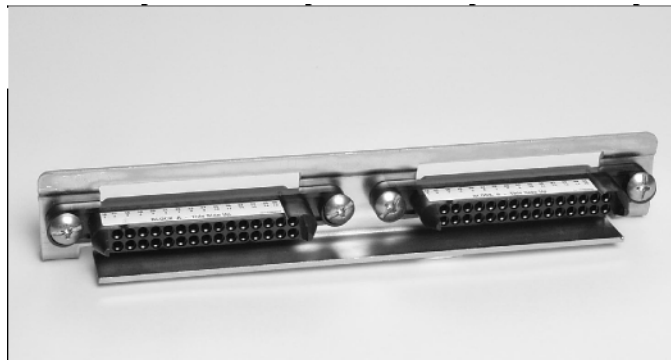

Figure 5-16 Secondary Male Connector with Female Pins
(1) **Standard Secondary Disconnect Block** - The secondary disconnect block is a female connector with male pins compatible with a male connector with female pins mounted under the protective hood (Figure 5-16). The customer plugs secondary wiring with crimp-on connectors into the back of the female plug-in connector.